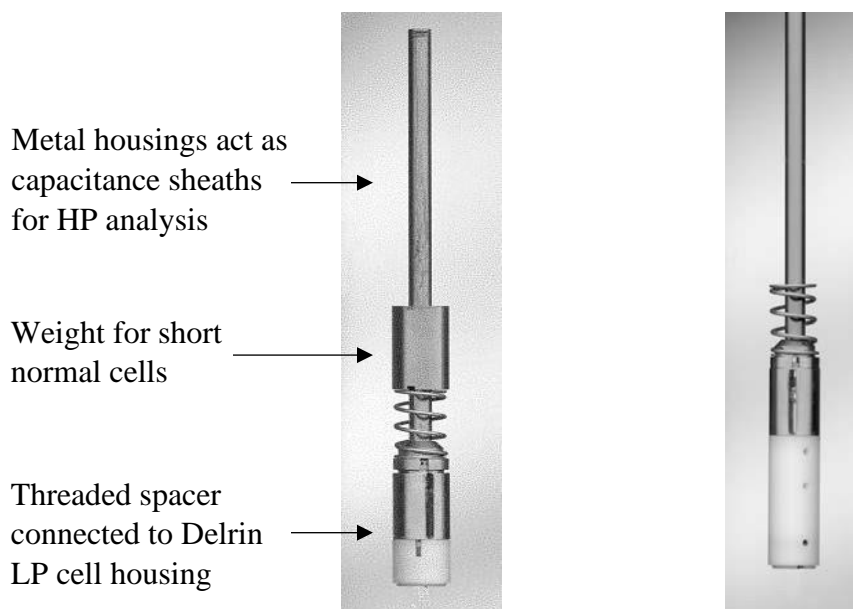

Figure 24. Normal cells with metal housing for high pressure chamber
- For normal cells, add the metal jacket as shown in Figure 24. The short cells employ the spacer as well as the jacket.
- Attach the spacer to the capacitance sheath and thread onto Delrin housing, then add the weight for the short, normal cells (see Figure 24).